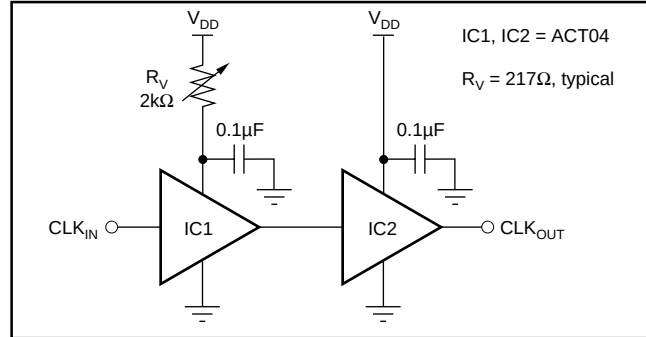

FIGURE 4. Clock Skew Circuit.
- For most applications, the clock duty cycle should be set to 50%. However, for applications requiring no missing codes, a slight skew in the duty cycle will improve DNL performance for conversion rates > 35MHz and input frequencies < 2MHz (see Timing Diagram) in the SO package. For the best performance in the SSOP package, the clock should be skewed under all input frequencies with conversion rates > 35MHz. A possible method for skewing the 50% duty cycle source is shown in Figure 4.